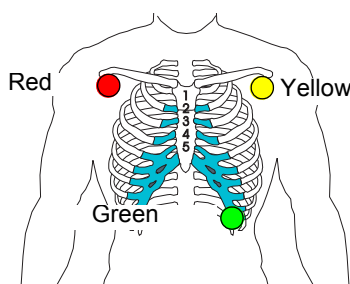
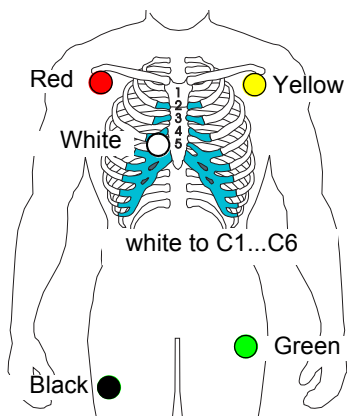

Fig. 4.3 3-lead cable
Fig. 4.4 4- and 10-lead cable
1. Apply the electrodes as shown in Fig. 4.3 or Fig. 4.4.